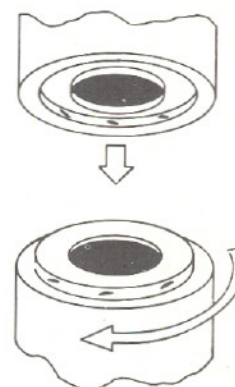

FIG. 8
10. **CONTINUE** adding Chimney Sections, until chimney exits above roof. (Note Paragraph 9 of **GENERAL INFORMATION**.) Any ceilings encountered are "boxed" at 15 1/2" x 15 1/2" as described, and Firestop Spacers installed. Roof opening should be plumbed from last Firestop Spacer, then cut according to roof termination used. **NOTE:** Chimney Sections are locked together by a firm clock-wise twist, which engages mating threads at ends (Fig. 8). **ADDITIONAL REINFORCEMENT** is required only when chimney is inclined (see details under **OFFSET** or **ELBOW** directions) or when chimney is exposed above roof (see details under **CONTEMPORARY CAP** directions).